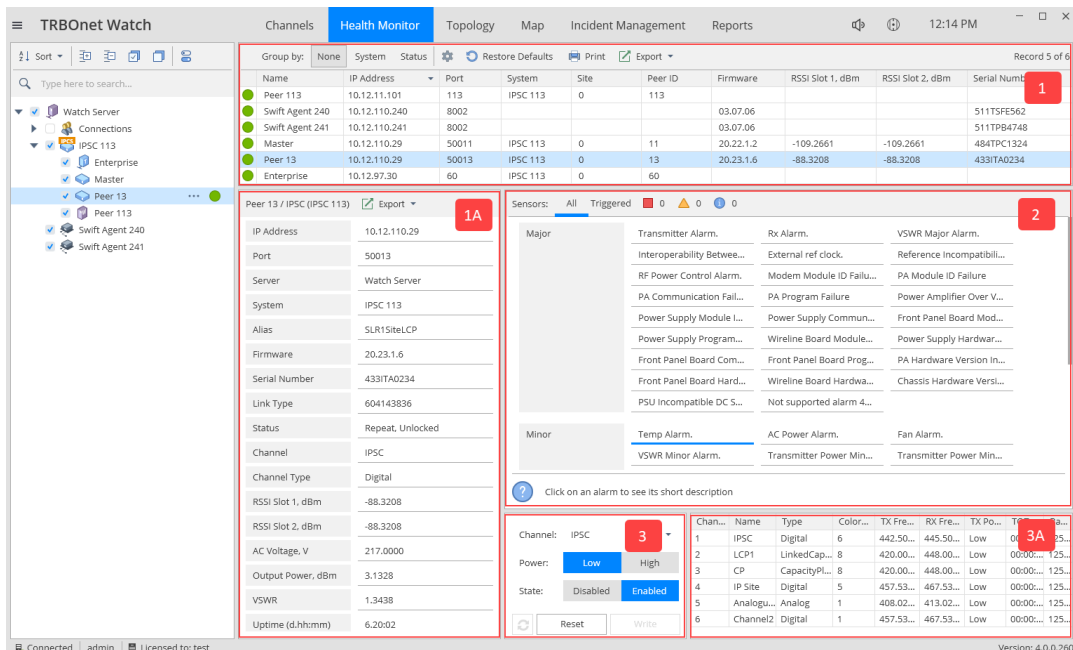

Figure 73: The Health Monitor panels
The **Repeaters, Controllers and Software Applications** list displays the diagnostic information about repeaters and peers in all registered MOTOTRBO systems. This panel is shown in Figure 73 as number 1.
The **Sensors** panel is shown in Figure 73 as number 2. It displays alarms of the repeater selected in the **Repeaters, Controllers and Software Applications** list.
The **Remote Control** panel (number 3 in Figure 73) displays the current settings of the repeater that you can modify remotely:
The **Repeater preprogrammed channels** panel (number 3A in Figure 73) displays the list of channels available for use with this repeater.
- Select the repeater in the **Repeaters, Controllers and Software Applications** list (number 1 in Figure 73).
- In the **Remote Control** panel (number 3 in Figure 73), expand the **Channel** drop-down menu and click a different channel.
- In the **Remote Control** panel (number 3 in Figure 73), click the desired **TX Power** option: **High** or **Low**.
- In the **Remote Control** panel (number 3 in Figure 73), click the desired **Status** option: **Enabled** or **Disabled**.
- Click the **Reset** button in the **Remote Control** panel (number 3 in Figure 73).
- Click  in the **Remote Control** panel (number 3 in Figure 73).